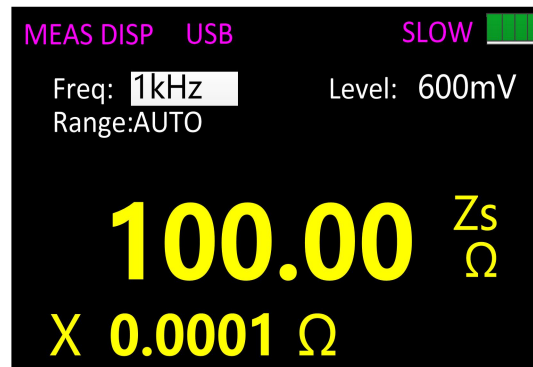

Figure 17
2. Press the **AUTO/R/C/L/Z** key until Z_s is displayed on the interface which means to select impedance measurement, shown in figure 17;